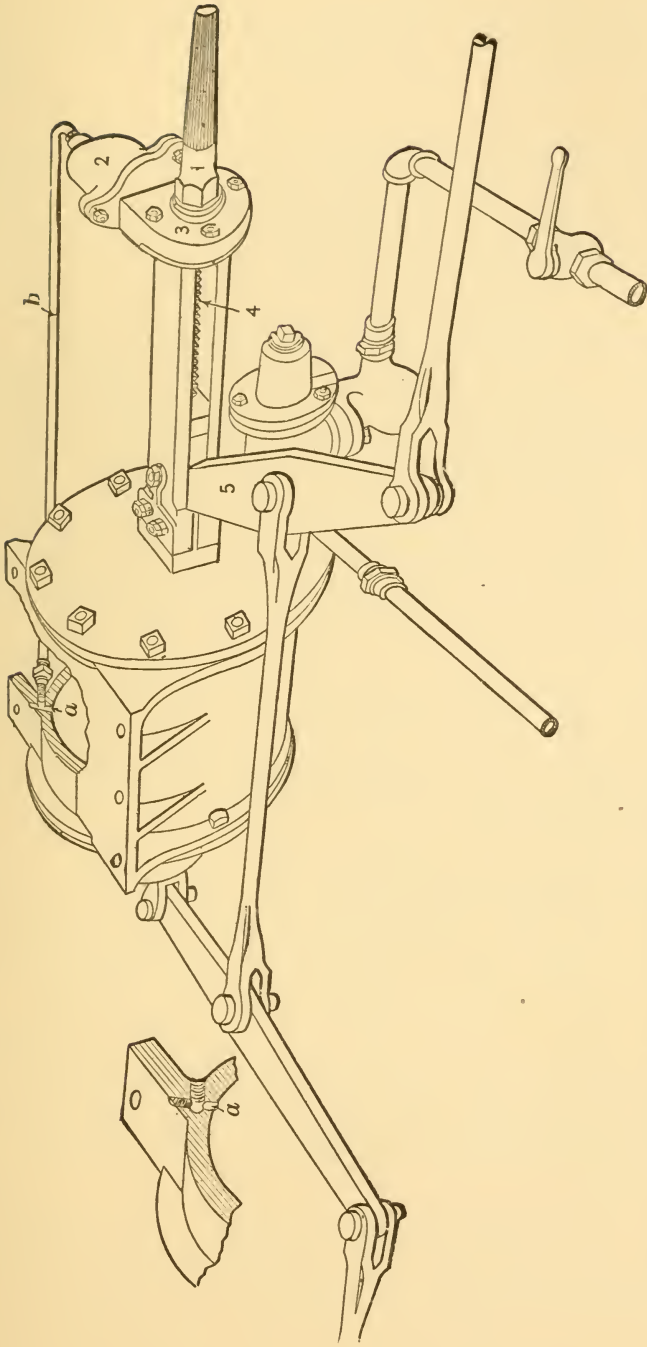
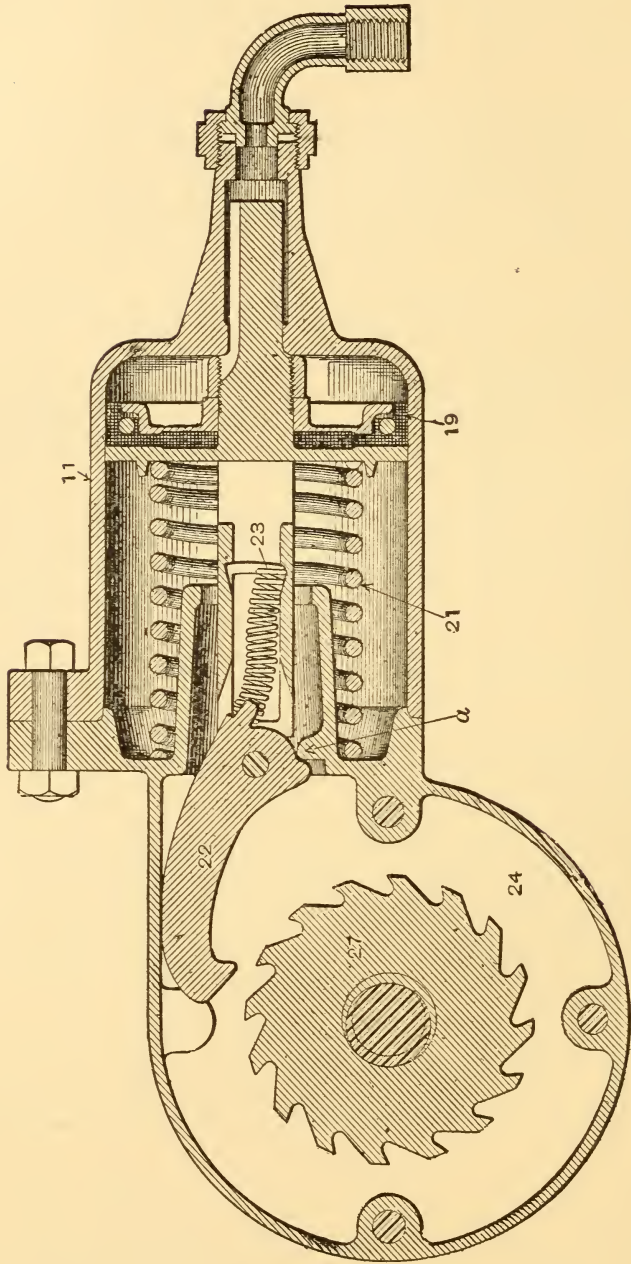
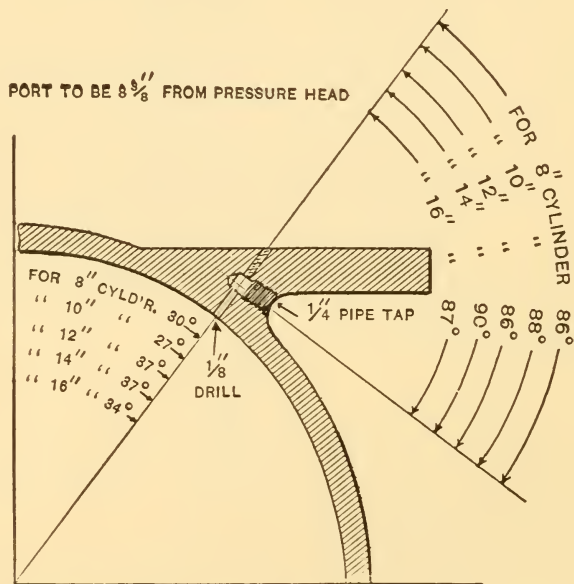

FIG. 12.—SHOWING APPLICATION OF AMERICAN BRAKE SLACK ADJUSTER TO A PASSENGER CAR EQUIPMENT.
FIG. 13.—SECTIONAL, END VIEW OF AMERICAN AUTOMATIC BRAKE SLACK ADJUSTER.
FIG. 14. — SHOWING PROPER METHOD OF DRILLING BRAKE CYLINDERS WHEN USED WITH THE AMERICAN AUTOMATIC BRAKE SLACK ADJUSTER.
Q. Name the different parts of the American Brake Slack Adjuster shown in Fig. 13?
Q. Name the parts shown in Fig. 12?
*Q. What is the object of the lug *a* (Fig. 13)?*
A. As illustrated in Fig. 13, its object is to lift the pawl out of the ratchet nut (27) when the adjuster piston is in release position. In the position shown the ratchet nut can be turned by hand to take up or let out slack when necessary, as when applying new brake shoes.
A. In Fig. 13 it is shown in the normal or release position. If there is sufficient slack in the brake rigging, so that the piston in the large cylinder (Fig. 12) uncovers port *a* when the brake is applied, cylinder pressure will pass through port *a*, pipe *b*, and into cylinder 11 (Fig. 13). The piston will be forced out,
When the brake is released and the piston in the brake cylinder is forced to release position by the release spring, port *a* is connected with the non-pressure end of the cylinder, hence the air in the slack adjuster cylinder passes through pipe *b* (Fig. 12), port *a*, and out to the atmosphere through the non-pressure head.
When the air is released from the slack adjuster cylinder the piston spring 21 forces the piston back and it in turn, through the pawl, turns the ratchet nut which draws the screw away from the cylinder. Lever 5 (Fig. 12) is fastened to a crosshead attached to the adjuster screw, hence the lever is moved correspondingly, the effect of which is to draw all the brake shoes nearer to the wheels.
Q. How many teeth does the pawl skip at each movement of the adjuster piston throughout its stroke, and what movement of the crosshead attached to lever 5 (Fig. 12) result?
Q. If the adjuster nut 1 (Fig. 12) is moved one turn, how far will the crosshead attached to the lever 5 be moved?
A. The location of port *a* in the brake cylinder (Fig. 12). It is usually located to obtain an eight-inch "running" travel.
A. By turning the ratchet nut 1 (Fig. 12) to the left.
A. Drill port *a* so that brake cylinder pressure can reach pipe *b* after the cylinder piston has travelled eight inches and erect the parts and piping as shown in Fig. 12, pipe *b* to be copper. The upright part of port *a* (Fig. 14) is drilled with a $\frac{1}{8}$ -inch drill and the upper portion plugged; the part of the port into which pipe *b* connects is drilled and tapped for $\frac{1}{4}$ -inch pipe. After erecting, test joints with soap suds. Next put on a new set of brake shoes and adjust the piston travel by means of the dead levers, from six to six and one-half inches.
A. The adjuster is so designed that the crosshead, when at the end of its stroke, is drawn against a set screw next to the cylinder casing 3 (Fig. 12), but not shown in the cut. Removing this set screw permits of a further movement of the crosshead and the usual operation takes place, allowing the pawl to be disengaged. The adjuster nut may then be turned by hand, thus moving the crosshead nearer the large cylinder for the purpose of giving sufficient slack to permit of the application of new brake shoes. The set screw should always be replaced after the pawl has been liberated and the crosshead moved back.